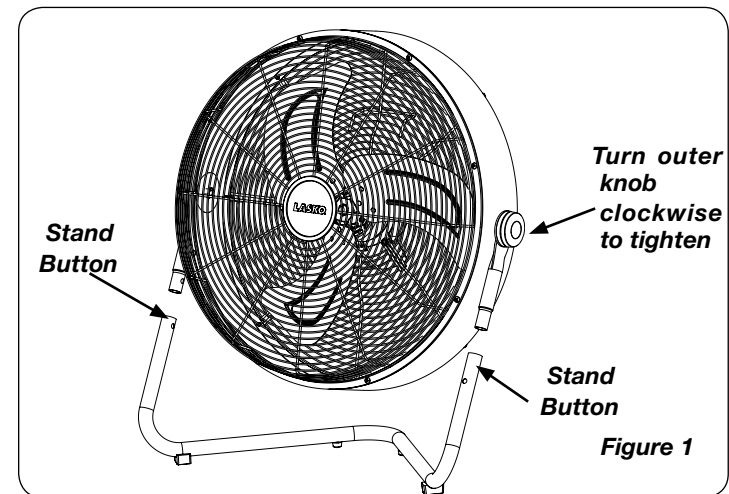

Figure 1
(Figures 1 and 2)
- Align the two sides of the fan to the stand (Figure 1). By pressing in the stand buttons - push down until they lock in place.